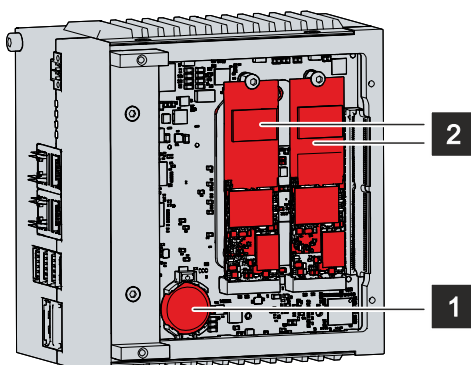

Fig. 29: Battery and storage media
⇒ The battery is now in an oblique position (see fig. 29).
5. Push the high side of the battery down into the battery holder (see fig. 29).